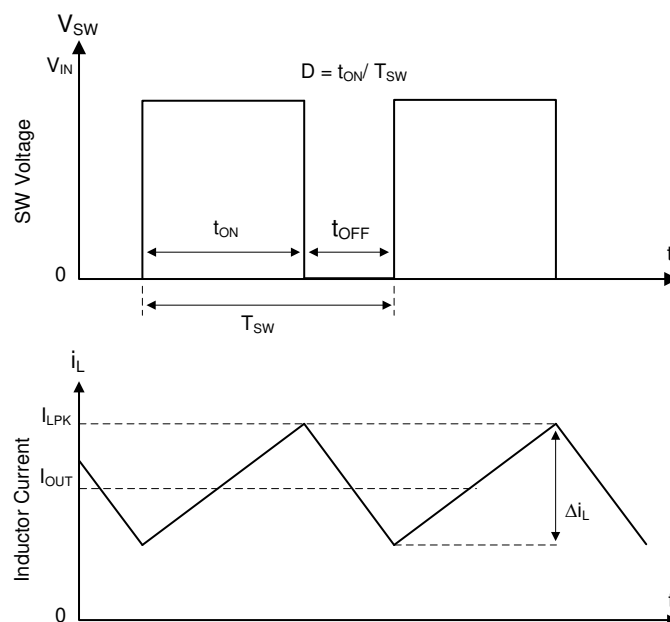

图 7-1. SW Node and Inductor Current Waveforms in Continuous Conduction Mode (CCM)
The following operation description of the TPS563300 refers to the functional block diagram and to the waveforms in Figure 7-1. The TPS563300 is a synchronous buck converter with integrated high-side (HS) and low-side (LS) MOSFETs (synchronous rectifier). The TPS563300 supplies a regulated output voltage by turning on the HS and LS NMOS switches with controlled duty cycle. During high-side switch on time, the SW pin voltage swings up to approximately  $V_{IN}$ , and the inductor current,  $i_L$ , increases with linear slope  $(V_{IN} - V_{OUT}) / L$ . When the HS switch is turned off by the control logic, the LS switch is turned on after an anti-shoot-through dead time. Inductor current discharges through the low-side switch with a slope of  $-V_{OUT} / L$ . The control parameter of a buck converter is defined as Duty Cycle  $D = t_{ON} / t_{SW}$ , where  $t_{ON}$  is the high-side switch on time and  $t_{SW}$  is the switching period. The converter control loop maintains a constant output voltage by adjusting the duty cycle  $D$ . In an ideal buck converter where losses are ignored,  $D$  is proportional to the output voltage and inversely proportional to the input voltage:  $D = V_{OUT} / V_{IN}$ .